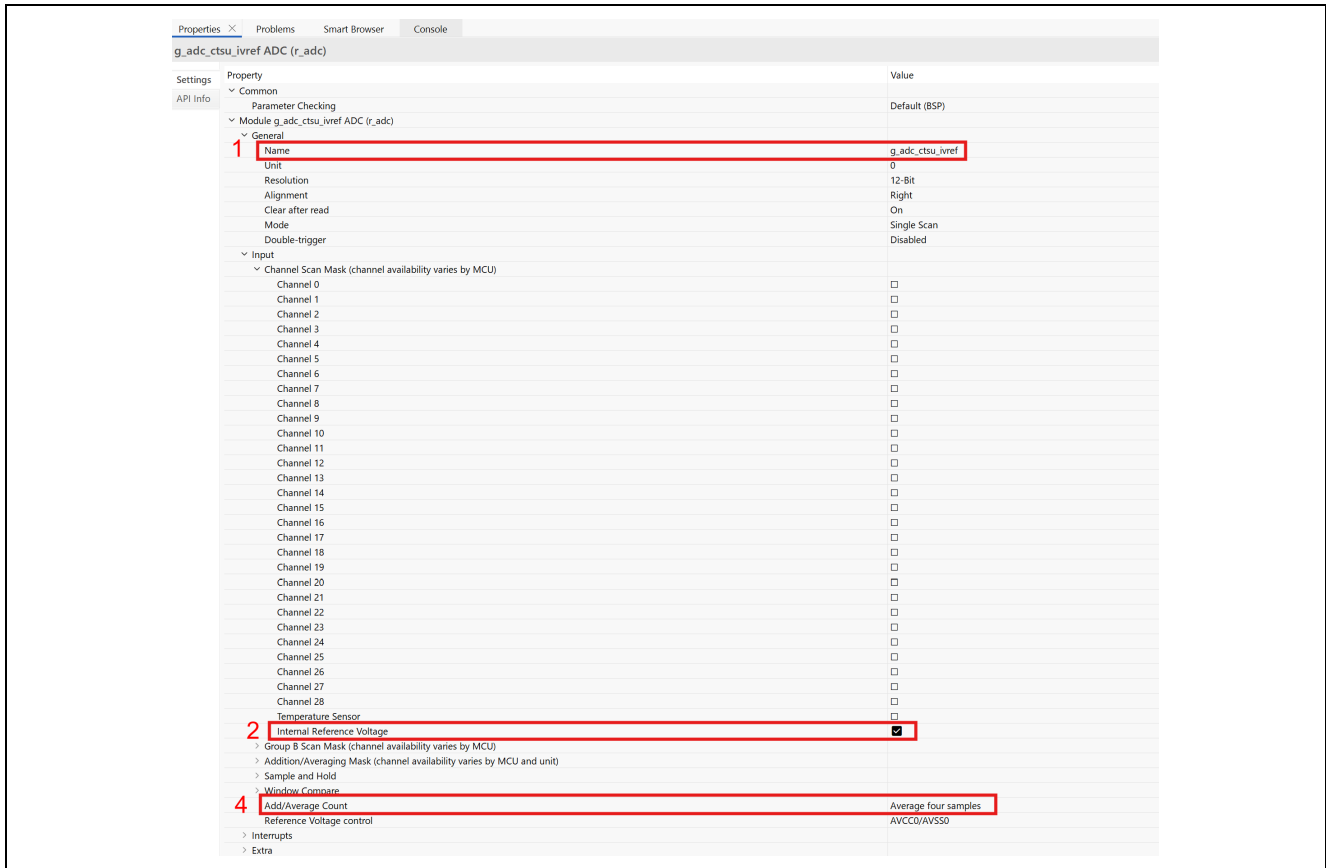
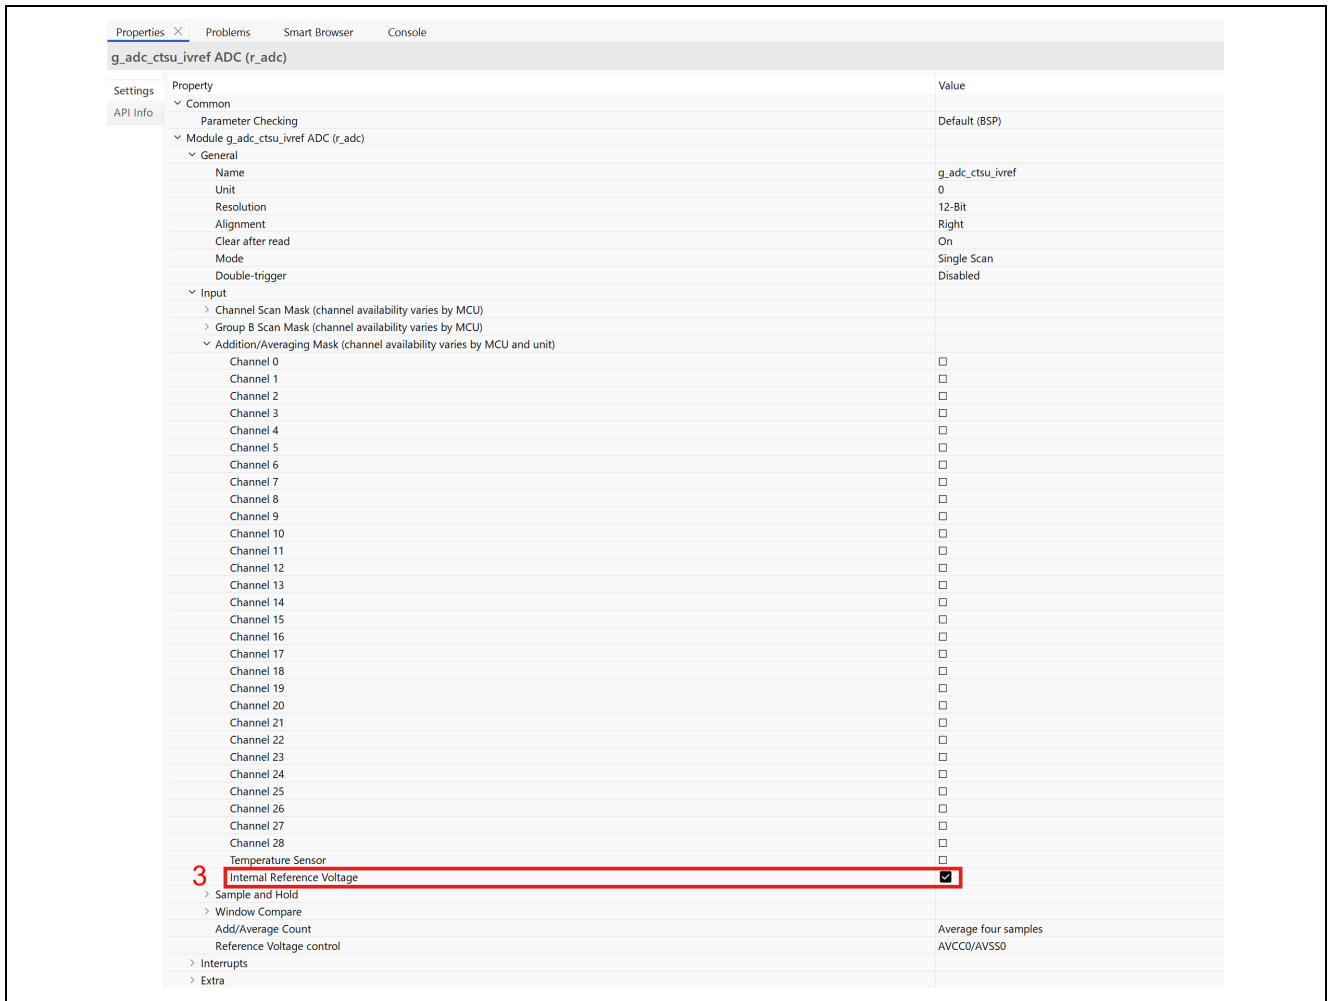

Figure 6-9 Configure "g_ctsr_ivref" (RA2E1, RA2L1, RA4L1)
Figure 6-10 Configure "g_adc_ctsu_ivref" Addition/Averaging Mask (RA2E1, RA2L1, RA4L1)
11. Select "g_adc1 ADC" and click [Properties] at the lower left. As shown in Figure 6-9 and Figure 6-10, change the following settings.